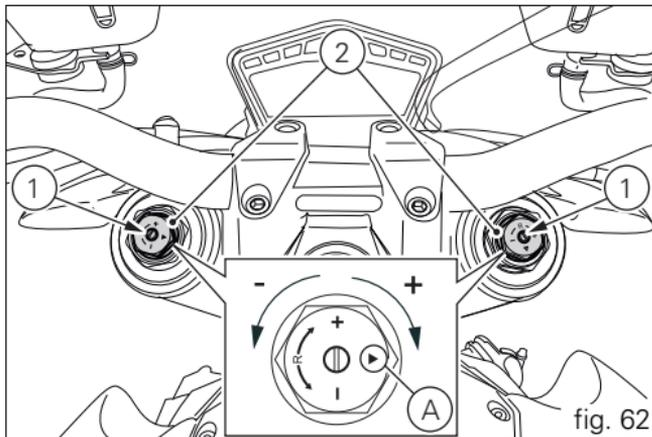

fig. 62
- 1) to adjust the rebound damping (fig. 62);
- 2) to adjust the preload of the inner springs (fig. 62);
To adjust the preload of the spring inside each leg, turn the hexagonal adjuster (2, fig. 62) using a 0.9 in (22 mm) box wrench starting from the fully open position (clockwise). From reference (A, fig. 62), every full turn clockwise corresponds to 0.04 in (1 mm) of preload of